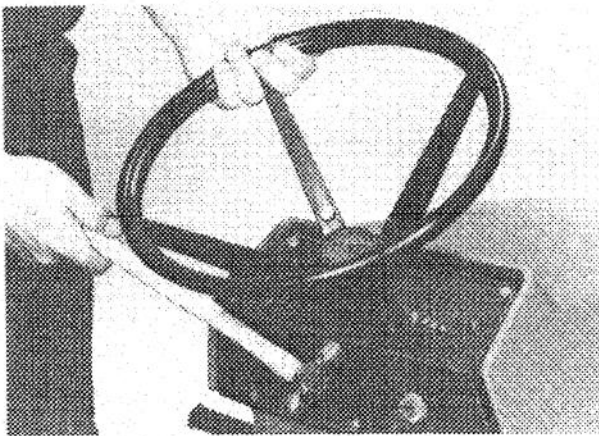

Figure 2
3. Drive the roll pin in until it is flush with the outside of the wheel (Fig. 2).